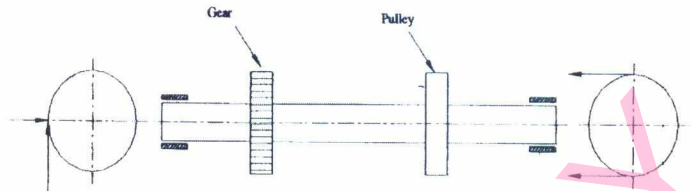

Fig.Q5
- 5 A uniform circular carbon steel shaft made of SAE 1025 annealed is mounted on two bearings 850 mm apart as shown in the Fig.Q5. The shaft carries a gear 'A' at 200 mm to the right of the left bearing and a pulley 'B' at 250 mm to the left of the right bearing. The gear is subjected to horizontal pressure of 3500 N and a vertical upward pressure of 9600 N. The pulley is driven by a belt with a tension on tight side to be 6000 N and on the slack side to be 2000 N. The shock and fatigue factors for bending and torsion as $K_m = 2$ and $K_t = 1.5$ respectively and weight of the pulley to be 1500 N. Design the diameter of the shaft for yield stress taking factor of safety as 3. Draw neatly the sketch with loading and bending moment diagrams.